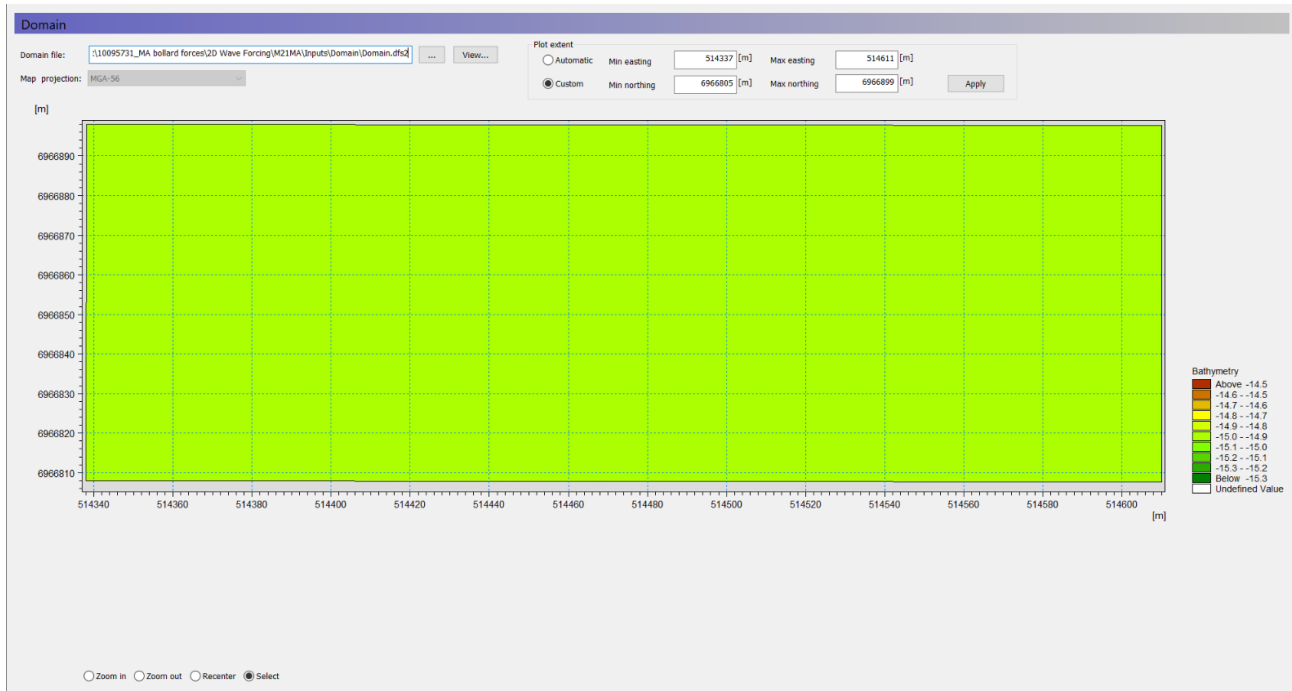

Figure 3.15 Domain window
1. Load the file and apply the custom settings seen in Figure 3.15